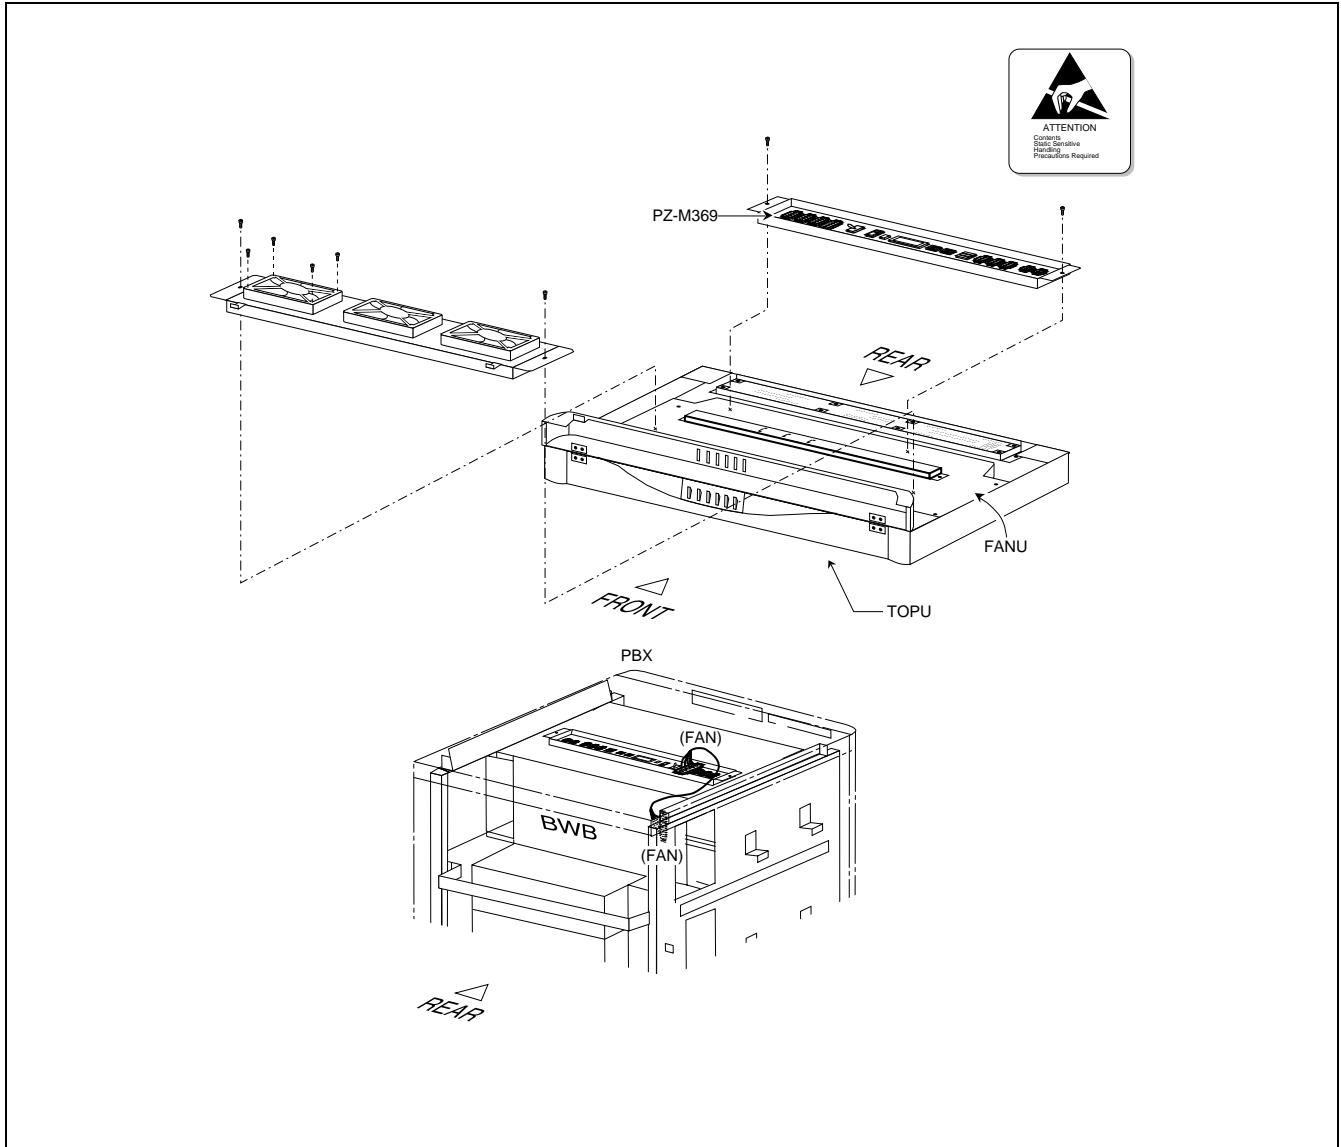

Figure 4-21 How to Replace FANU (Fans on TOPU)
STEP 5 Remove the four screws fastening the fan to be replaced. Refer to Figure 4-21.